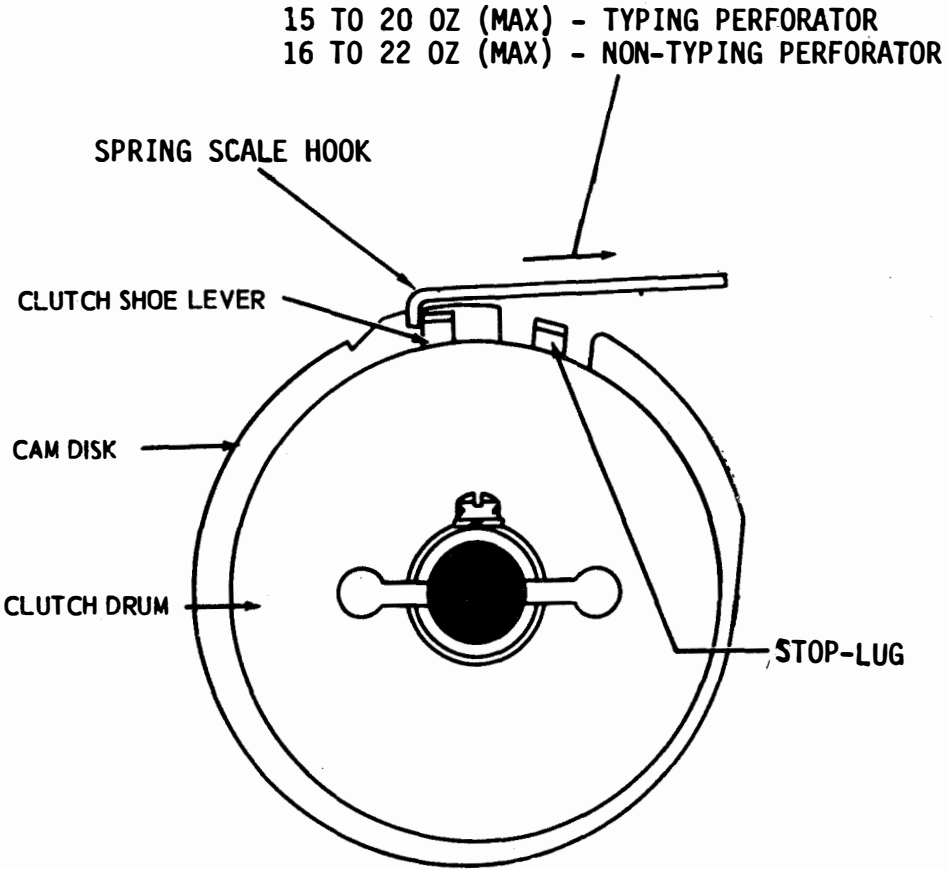

Figure 6-138. Clutch Shoe Lever Spring
(3) Clutch Shoe Lever Spring. Adjust as follows:
- (a) Refer to Figure 6-138.